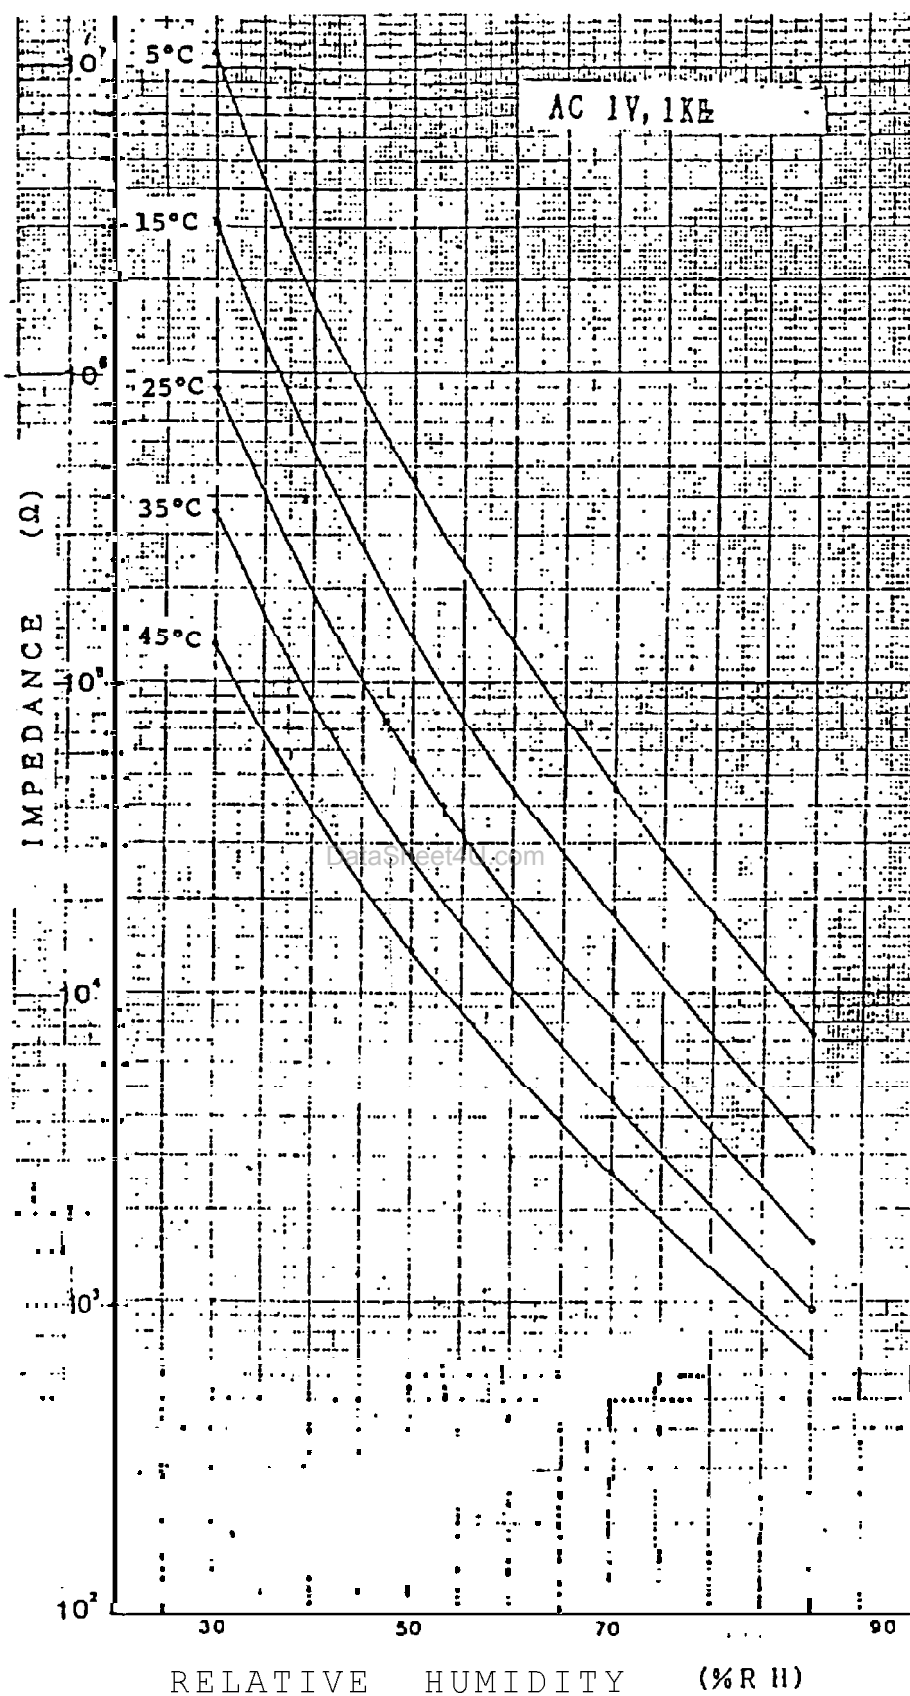

Fig. 1 Typical Characteristics
12. Typical Characteristics : Shown in Fig. 1.